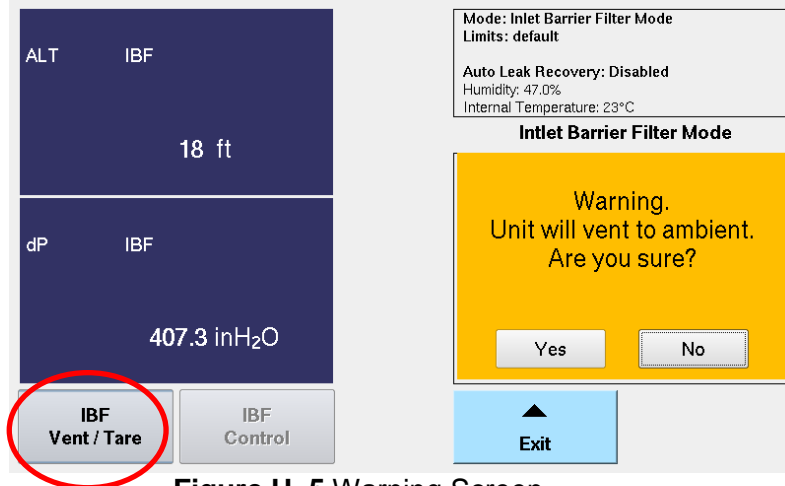

Figure H. 5 Warning Screen
- Touch "IBF Vent/Tare". A warning screen appears with the prompt in Figure H. 5 below.